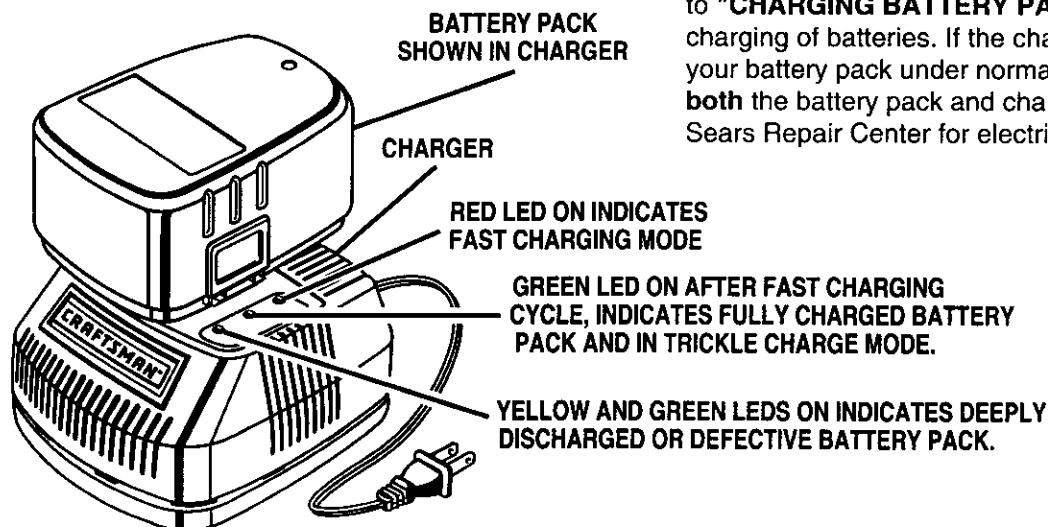

Fig. 1
See Figure 1.
- Place battery pack in charger aligning raised rib on battery pack with groove in charger. See Figure 1.